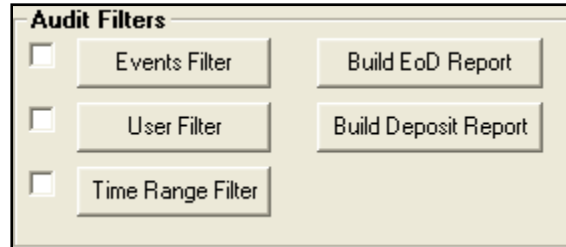

Fig. 9.9
- 4) Some reports allow you to filter the data being viewed. This field will be located at the bottom of the window once the information type has been selected (Fig. 9.9). The Build End of Day and Build Deposit Report options will also be available in this field. For more information on filters please refer to Section 11 of this manual.